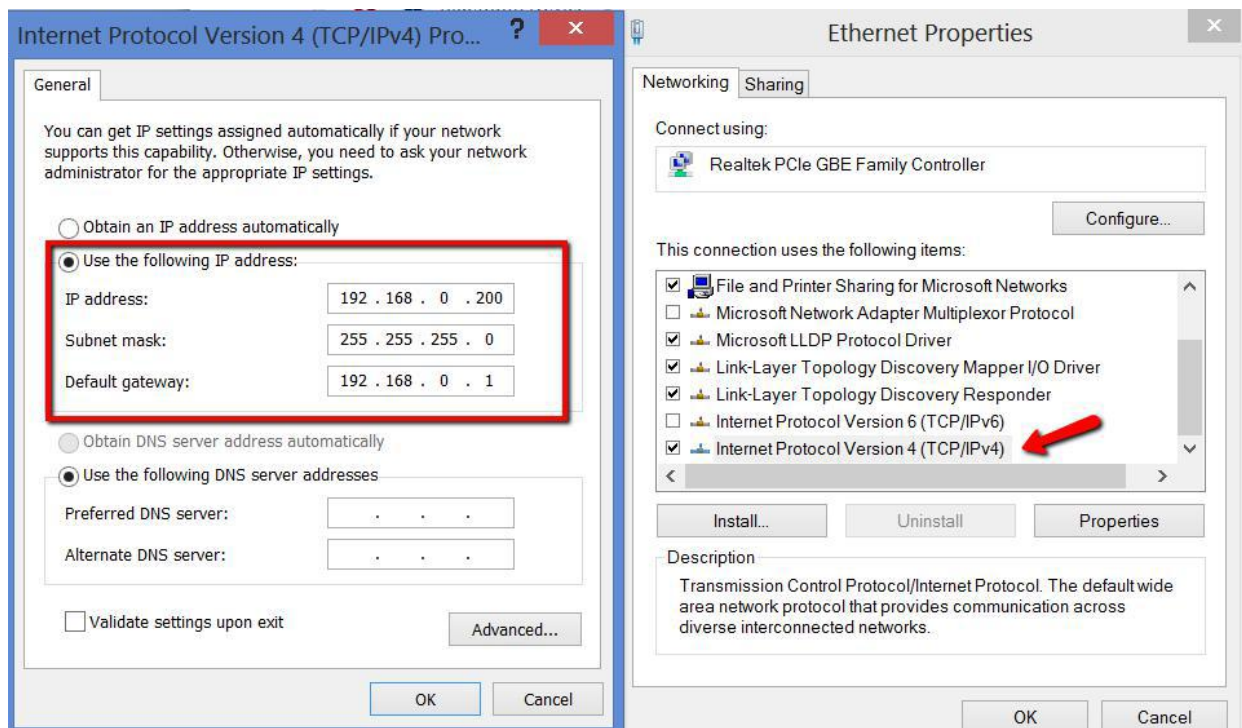

Figure 18 OLD IP SETTING
- Scroll Down and double click “TCP//IPv4” and Set the IP as below Figure 18.